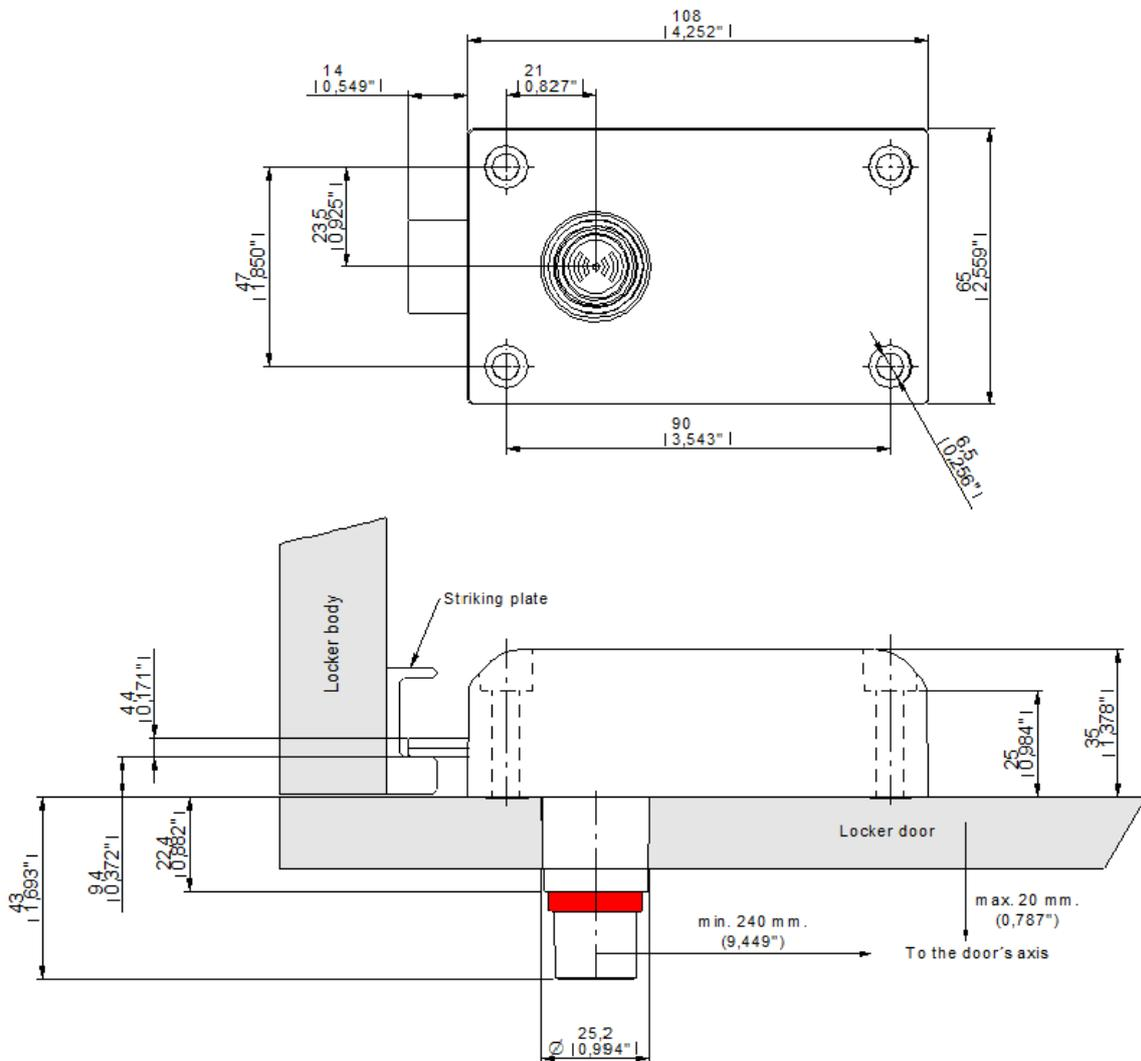

Figure 4. Measurements of OTS Batteryless lock in mm (inches).
**(\*) NOTE:** During installation, ensure that the lock does not collide with the locker body with the door open. The dimensions and location of the fixing holes are shown in Figure 4.